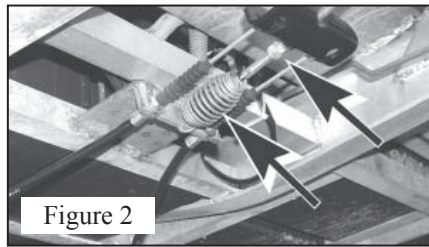

Figure 2
3. Remove the pedal return spring, then loosen the two brake equalizer nuts completely to the end of the brake adjustment rod. See figure 2.